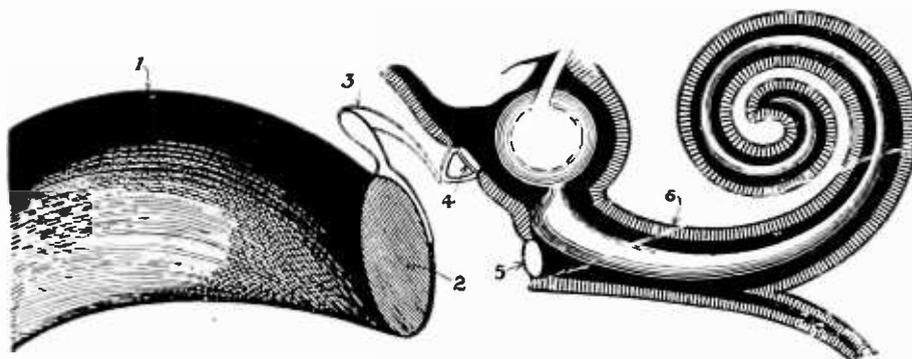

FIG. 4
The human ear is constructed in principle almost exactly like our model as will be seen from Fig. 4. In this figure we have the external ear (1) corresponding to the horn for gathering up the sound and concentrating it on the diaphragm or drumskin (2). The leverage between the drumskin and the second diaphragm in the liquid chamber is obtained by a system of three bones (3) named from their appearance, the hammer, the anvil and the stirrup. This particular form of lever is employed to prevent any unusual shock from injuring the delicate apparatus of the inner ear, since these bones are arranged so that they slip over each other at their joints if too great a motion is imparted to them. The liquid chamber is shown at (6). It consists of a bony case shaped like a snail shell and named from its appearance the Cochlea. The end of the lever system is attached to the second diaphragm known as the Oval Window (4). The third diaphragm for the purpose of allowing freedom of motion of the liquid shown at (5) is known as the Round Window. In the liquid chamber or Cochlea (6) are located the thousands of vibrating bodies of various shapes and sizes which take the place of the tuning forks in our model. The microphones of the model are replaced by nerve terminals attached to each of the vibrating bodies, each terminal being connected to the brain or measuring instrument by its own nerve fibre.
From this point of view, the extreme small size of the parts of the ear is significant as will be seen from Fig. 4 and as though Nature had not gone far enough in this direction to astonish us, she tucked into the corners the apparatus by which we balance ourselves on two feet. The smallness of the fibre which connect the vibrators with the brain is even more extraordinary. Some idea of their size may be gained from the fact that the entire cable, containing thousands of nerves, is less than $\frac{1}{10}$ inch in diameter.